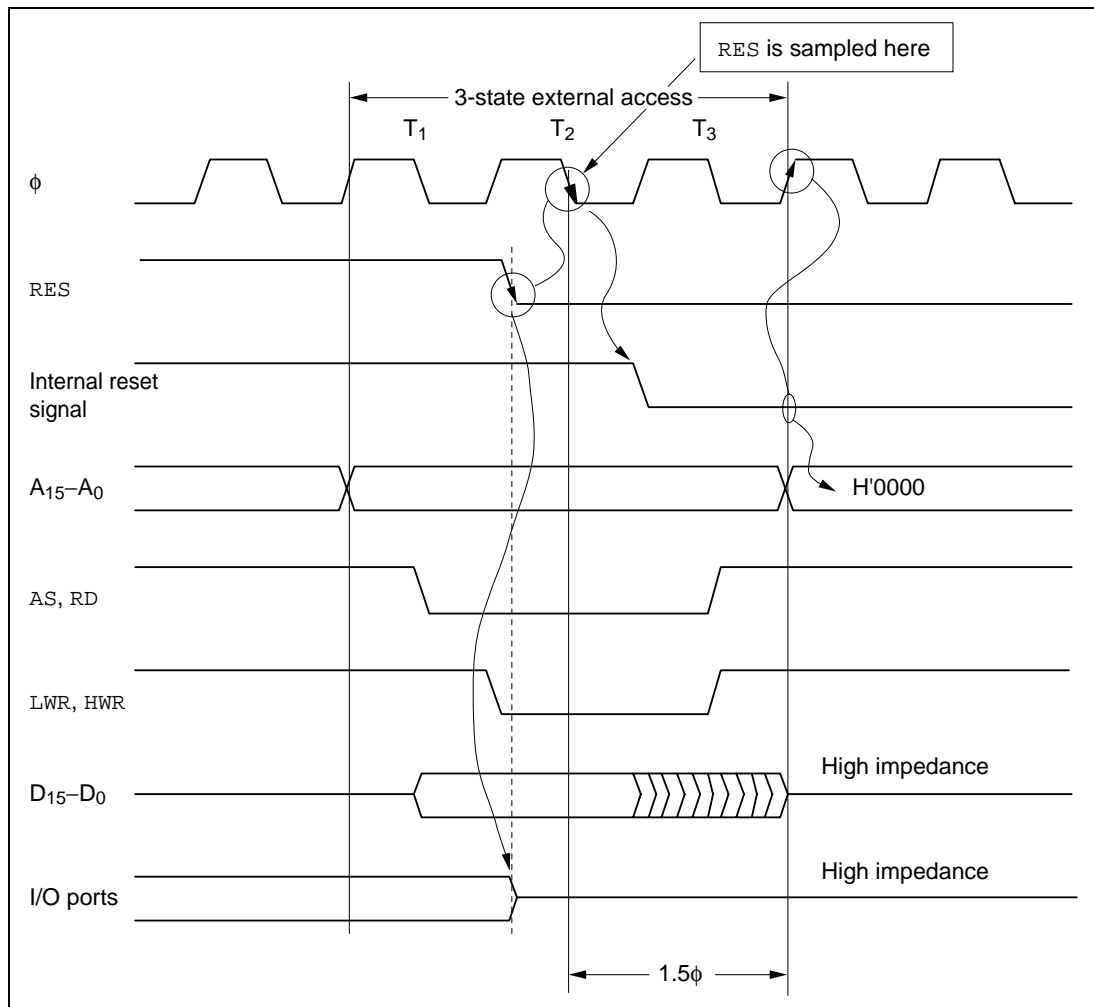

Figure G-1 Reset during Three-State Access (Modes 1 and 6)
(1) Modes 1 and 6: Figure G-1 is a timing diagram for the case in which $\overline{\text{RES}}$ goes low during three-state access in mode 1 or 6. As soon as $\overline{\text{RES}}$ goes low, all ports are initialized to the input state. $\overline{\text{AS}}$, $\overline{\text{RD}}$, $\overline{\text{LWR}}$, and $\overline{\text{HWR}}$ go high, and D_{15} to D_0 go to the high-impedance state. A_{15} to A_0 are initialized to the low state 1.5 system clock cycles (1.5ϕ) after the low level of $\overline{\text{RES}}$ is sampled.